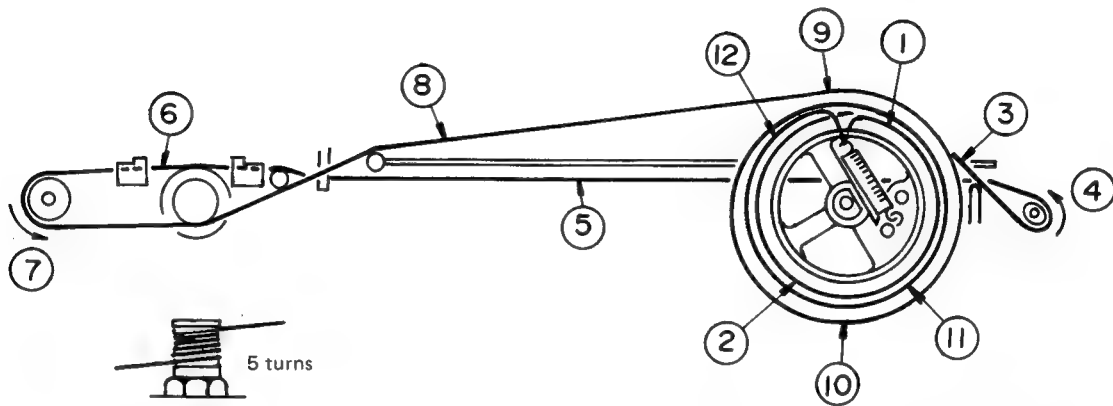

Fig. 37
- Turn the dial drum fully clockwise and fit the cord in numerical order as shown in Fig. 37.